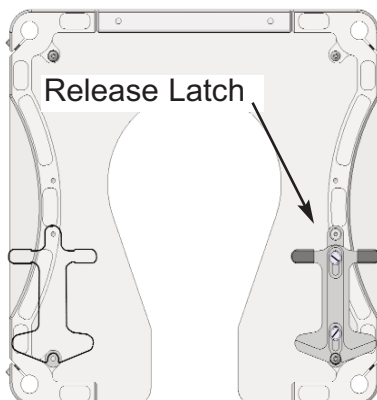

Figure 17
**C Release Latch:** Verify that the release latch is fully engaged on the slider seat before removing the connector bridge (Refer to Figure 17).